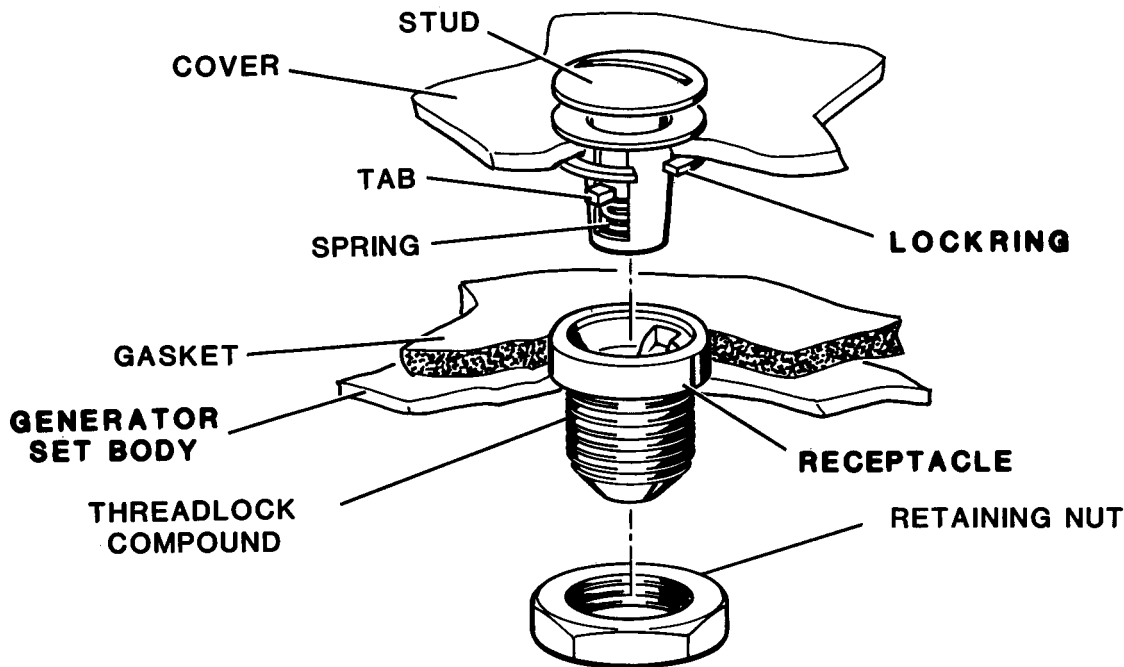

Figure 2-1. Turnlock Fastener
- (1) Remove damaged gasket. Use trichloroethylene (O-T-634) to thoroughly clean area.
- (2) Measure and cut new gasket to fit.
- (3) Peel backing from adhesive side of new gasket and firmly press in place. Trim to fit.
e. Turnlock Fastener Replacement. (See figure 2-1.)
- (1) Receptacle replacement.